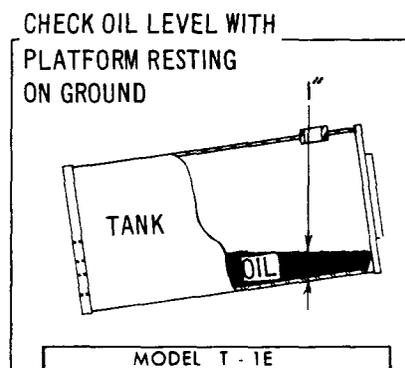

Fig. 15
13.05 Checking and adding oil: Lower platform to ground before checking or adding oil to reservoir. Keep oil level 1 inch from bottom of reservoir. See Fig. 15. Use hydraulic oil or a high-grade motor oil (S.A.E. 10W-30) in system.